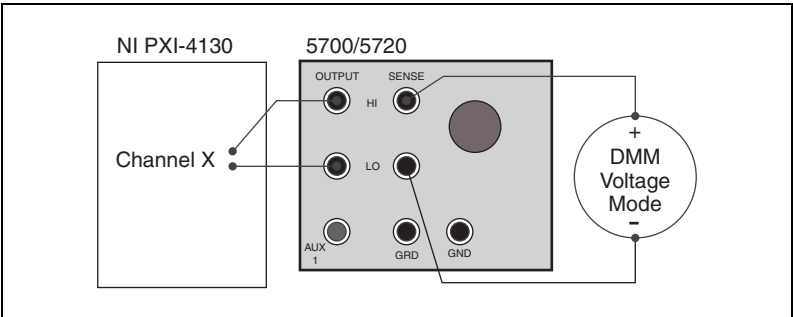
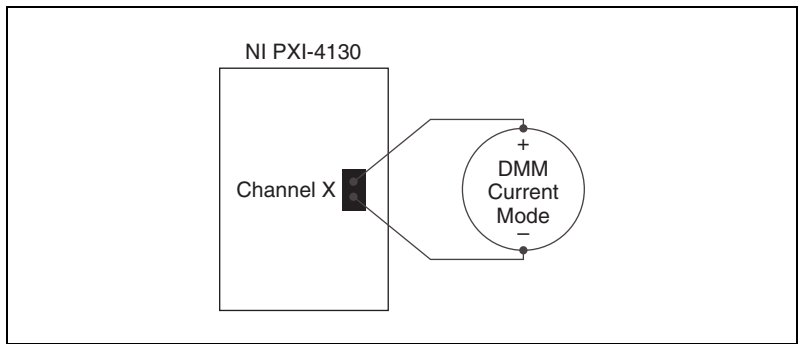

Figure 2. Current Programming Accuracy Verification Setup for the 200 μ A, 2 mA, 20 mA, and 200 mA Current Ranges of Channel 1
Figure 3. Current Programming Accuracy Verification Setup for the 1 A Current Range of Channel 0 and the 2 A Range of Channel 1
2. Connect the NI PXI-4130 channel x to the DMM or to the Fluke 5700A/5720A calibrator, as illustrated in Figure 2 or Figure 3.
The setup in Figure 2 is used for the 200 μ A, 2 mA, 20 mA, and 200 mA current ranges of channel 1. The setup in Figure 3 is used for the 1 A current range of channel 0 and the 2 A current range of channel 1.